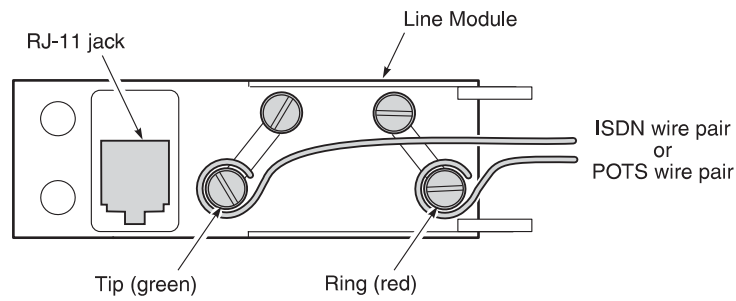

Figure 10. Attaching the ISDN and POTS Wire Pair
- 3 Insert the POTS wire pair through the cutout on the right side of the Line Module door (see Figure 10).